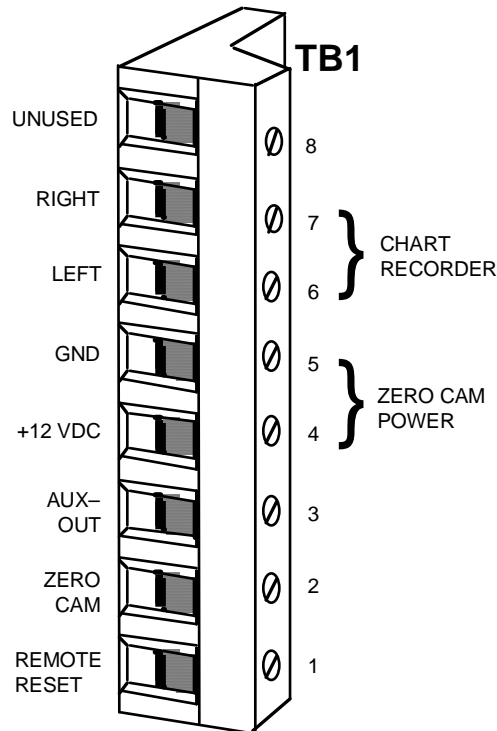

Figure 2-9. Connector for zero cam, remote reset and chart recorder
The zero signal must come on approximately at 240° and turn off at 30°. (The zero signal is a closure to ground. That means during the zero signal the cam switch must be closed. The closed switch makes a connection between the zero cam terminal (pin 2) and GND (pin 5) on connector TB1 (see Figure 2-9).
4. Once the LMCS is installed, you are ready to wire it to the connector for TB1. Open the AutoSet cover and find connector TB1 at the left center of the box. See Figure 2-9. Black wire goes to terminal 5 (gnd); white or clear goes to terminal 2 (zero cam); red goes to terminal 4 (sensor power).
6. Connect one wire to pin 1 (RESET) and the other to pin 5 (GND). See Figure 2-9 for connections.
3. Pull the connector out of socket. Connect the wire that will record tonnage at the left strain link to pin 6 (LEFT). Connect wire for right strain link to pin 7 (RIGHT). See Figure 2-9 for connections.